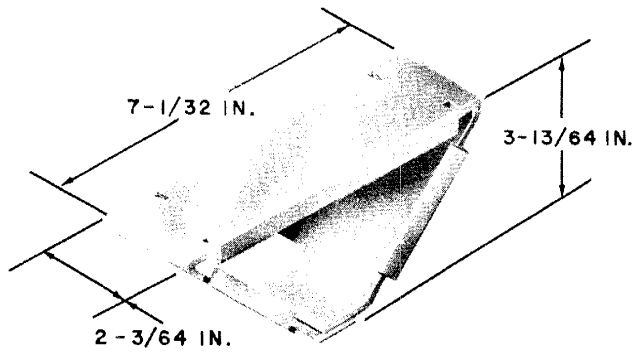

Fig. 4—P-48F348 Filler Block Assembly
- One P-48F348 filler block assembly (Fig. 4)